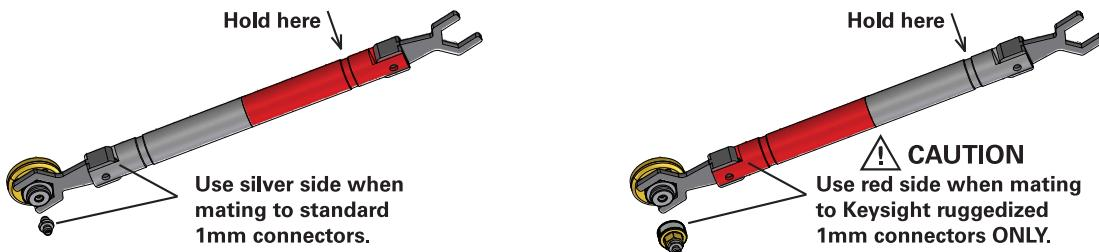

Figure 4 Applying torque
- 1 Hold the handle at the double line as shown in Figure 4 to apply torque. If you hold the handle closer toward the head, you will apply more torque than what the wrench is set for. The wrench is a length-dependent tool.